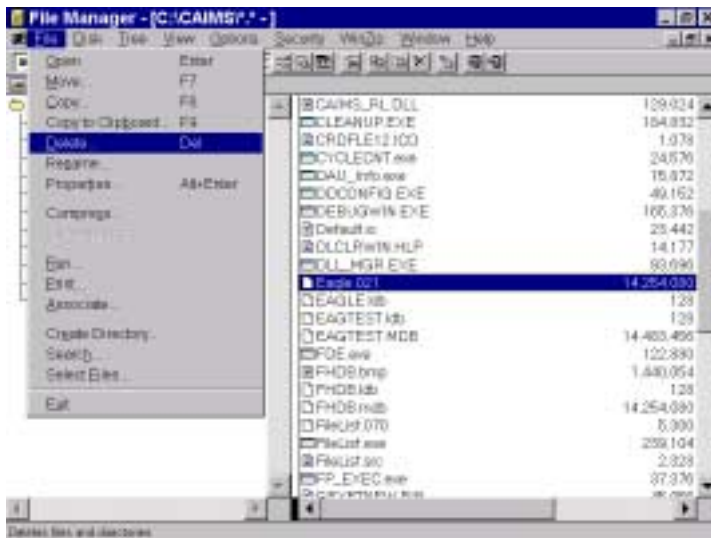

Figure 3 File Manager
- 4. In the File menu, select "Delete". See Figure 3.